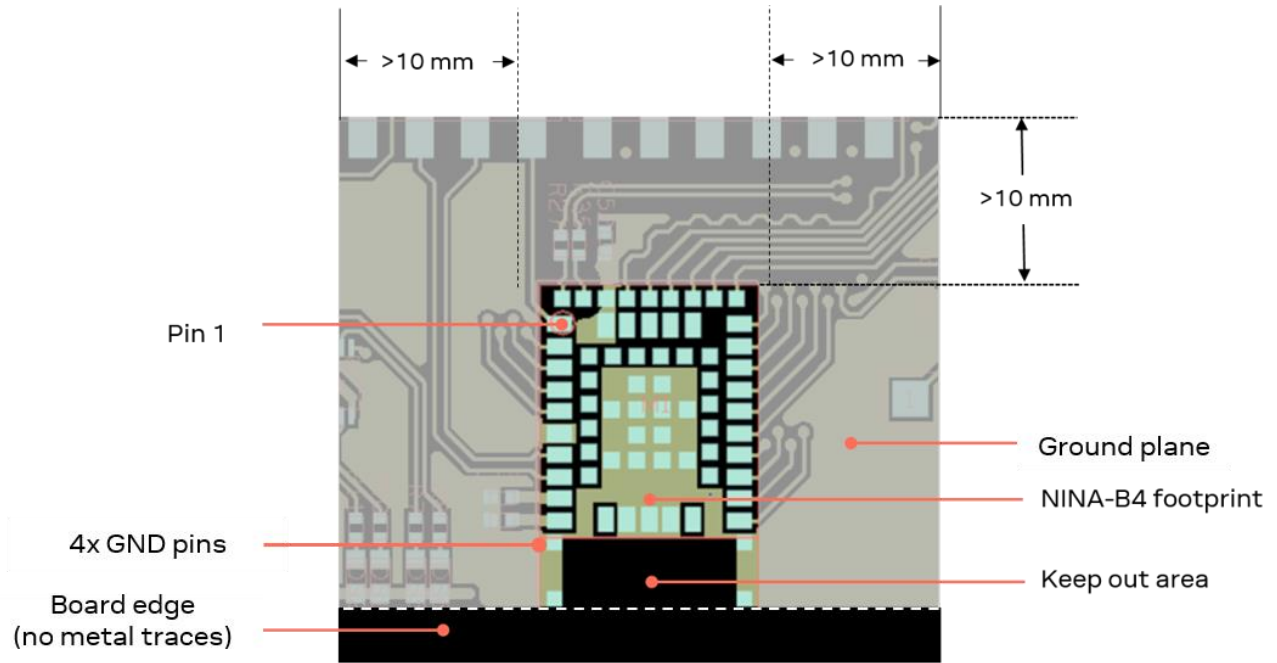

Figure 7: Extended host ground plane outside NINA-B4x6
- A ground plane extending at least 10 mm on both sides of the module is recommended, as shown in Figure 7.